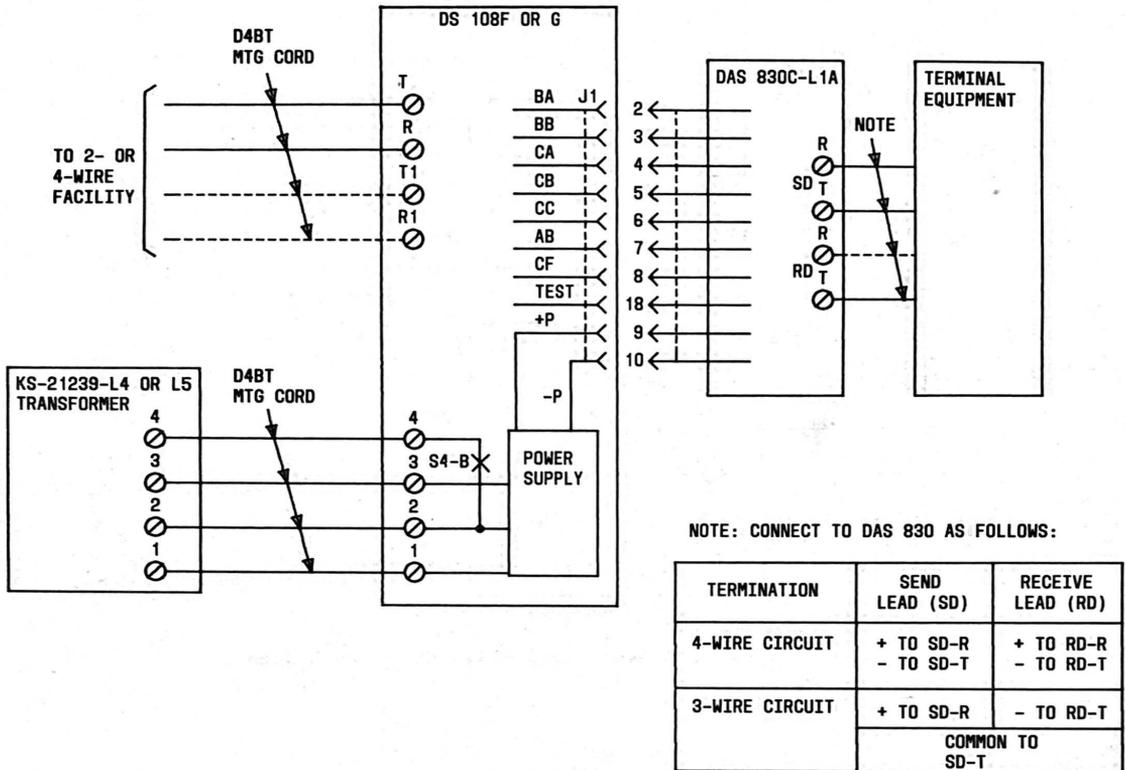

Fig. 17—DS 108F or G with DAS 830C-L1A Connection Diagram
- Fig. 17—DS 108F or G With DAS 830C-L1A Connection Diagram